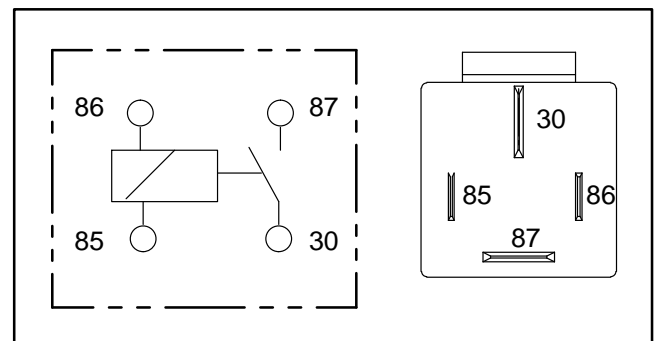

Figure 21
4. Verify coil resistance between terminals 85 and 86 with a multimeter (ohms setting) (Fig. 21). Resistance should be approximately 72 ohms.